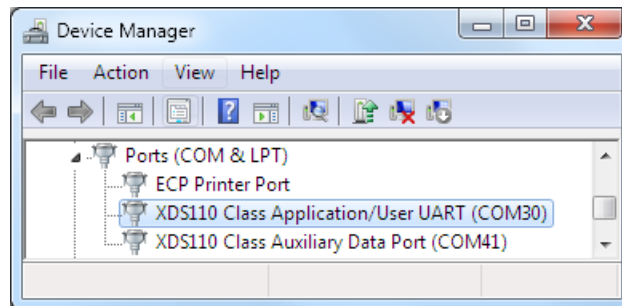

Figure 18. Determine COM Port Number Using Device Manager on Windows
4. Launch a serial terminal application and connect to the COM port for "XDS110 Class Application/User UART" at 115200 baud rate (see Figure 18 and Figure 19).